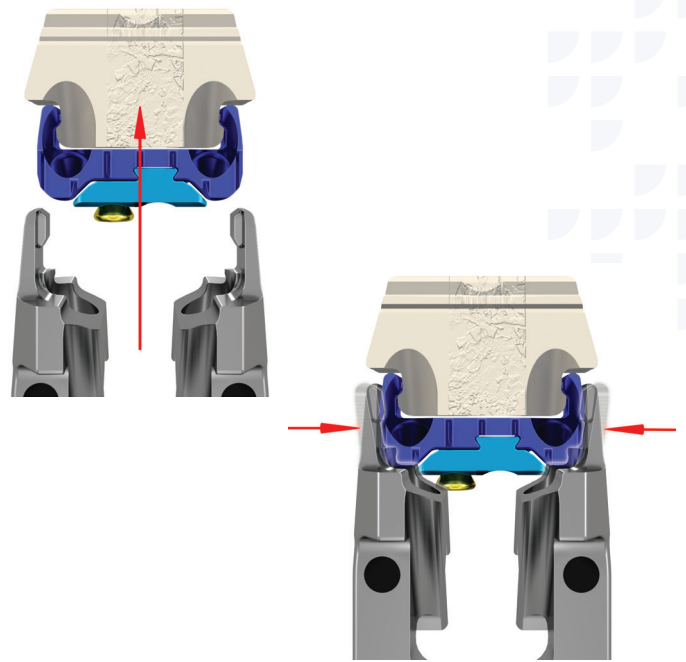

Figure 24
- Assemble the ATO inserter guide to the modular impactation cap handle. The ATO inserter guide grasps the outside of the plate by engaging the plate pockets. With the gold locking screw oriented on the left and guide circular markings facing upward, attach the ATO inserter guide around the outside of the plate. The ATO inserter guide snaps into place when the tabs are fully seated in the plate pockets (Figure 24, top).
Note: The circular markings on the ATO inserter guide should face upward when assembling the plate to the inserter. These markings are for orientation only, indicating the direction the two lateral screws will point in situ (Figure 24, bottom).